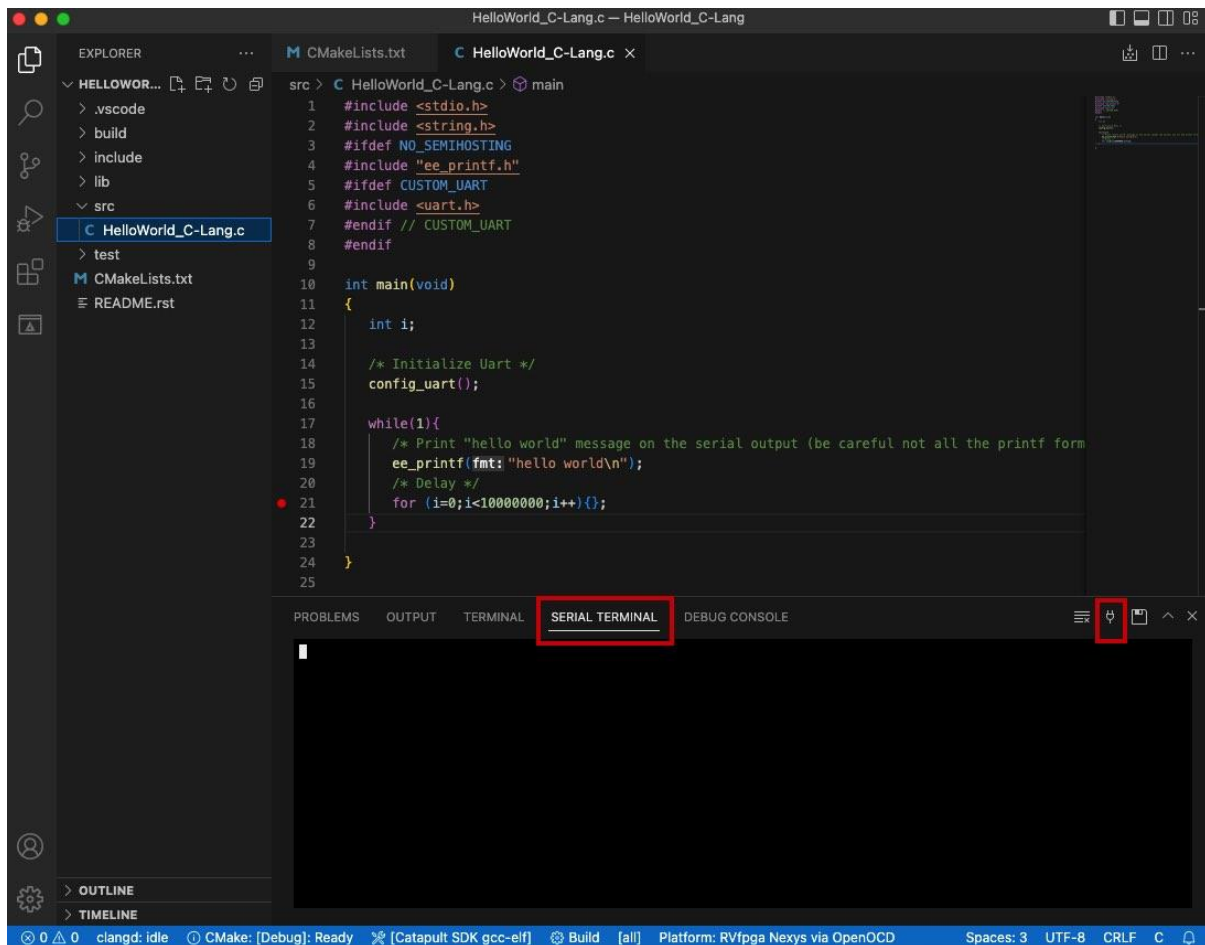

Figure 55: Serial terminal connect icon
3. Click the SERIAL TERMINAL tab in the terminal section of Catapult Studio, then click the connect icon (Figure 55). This leads you through a set of configuration options to connect to the Nexys serial port. Firstly you must select the correct serial port from a